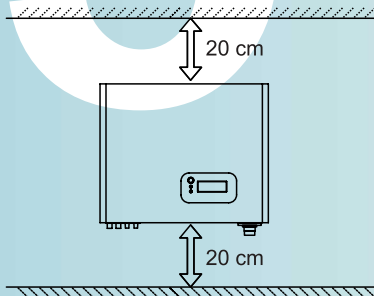

Fig. 1
- Ensure a minimum of 20 cm open space above and below the device in order to provide natural convection to the heat sink (fig 1).